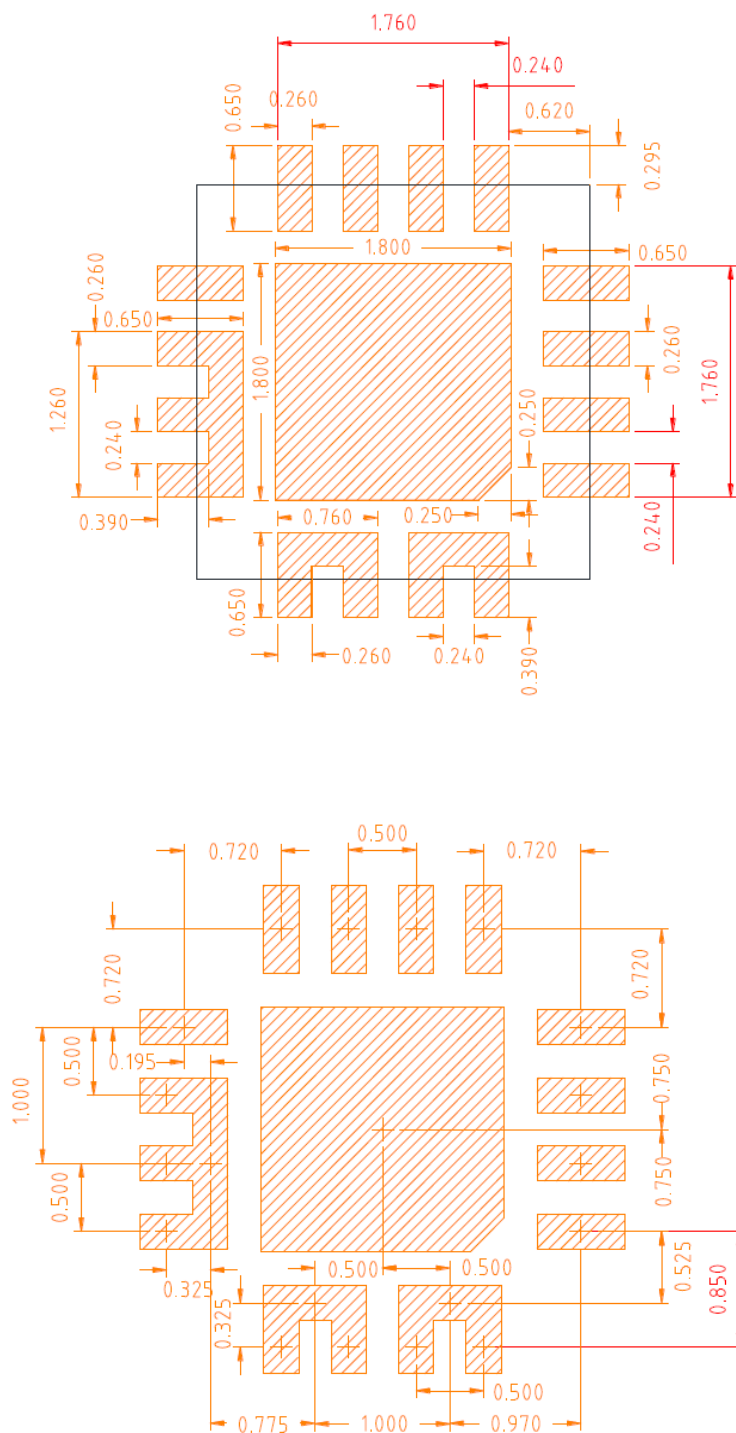

Figure 8-5 PCB metal pad sizing and spacing (all dimensions in mm)
3.1 09-07-21	<ul style="list-style-type: none"><li>• Updated Figure 8-5</li><li>• Changed "12V" to "5V" in the title of Table 5-6</li></ul>